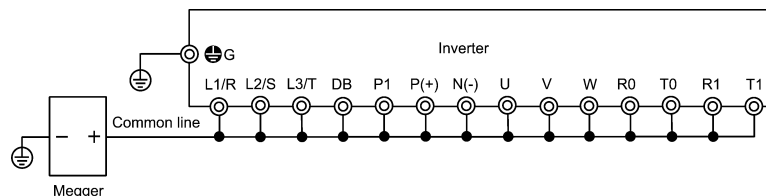

Figure 7.2 Main Circuit Terminal Connection for Megger Test
- 3) Connect the main circuit terminals with a common line as shown in Figure 7.2.